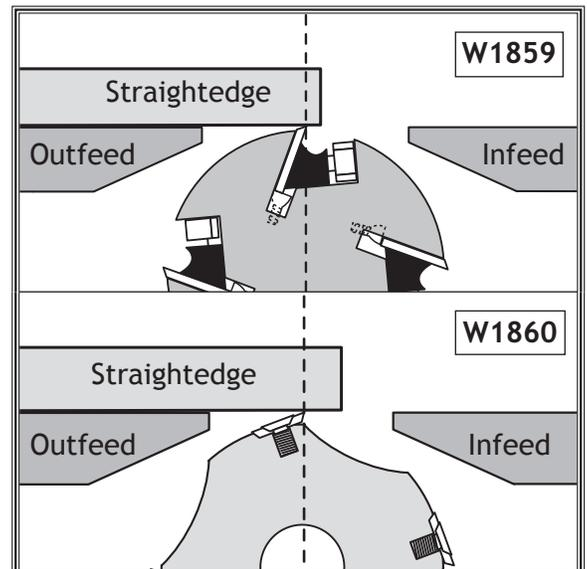

Figure 49. Using straightedge to check outfeed table height.
7. Use outfeed table lever to set outfeed table so knife or insert barely touches straightedge, as shown in Figure 49.